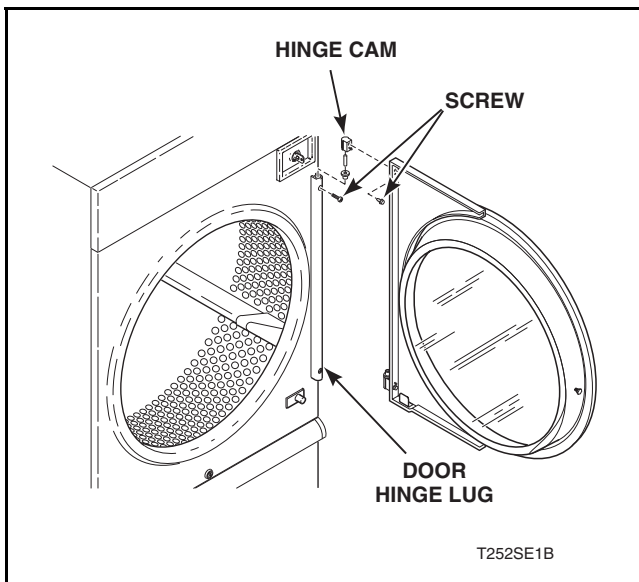

Figure 1
Refer to *Figure 1*.
Refer to *Figures 1* and *2*.
- c. Remove two screws at the loading door hinge. Refer to *Figure 1*.
- c. Remove two screws at the loading door hinge lug. Refer to *Figure 1*.
- Remove two screws from loading door hinge lug. Refer to *Figure 1*.
- a. Remove two screws from the loading door hinge lug. Refer to *Figure 1*.